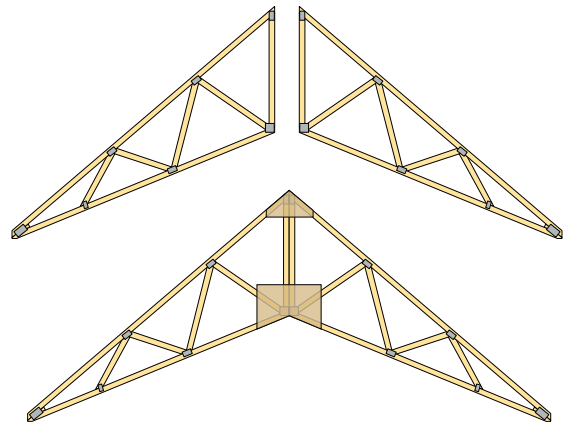

Figure 4. Example of a steeply pitched Scissors Truss requiring a specially designed field splice at the top and bottom peak. See TDD for splice details.
Trusses too long or tall for manufacture and/or transport as a single component are often designed in two (2) or more parts and field spliced at the jobsite. For example, a scissor truss may be fabricated in two (2) halves symmetrical about the ridge (see Figure 4). Building designers and contractors should receive a TDD depicting the final in-service truss profile and associated splice connection details. A note should be placed on the TPD(s), if provided, to help direct the contractor to this important information. Where required by the registered design professional, the building official or the statutes of the jurisdiction in which the project is to be constructed, all field splice truss documents should bear the seal and signature of the truss design engineer.